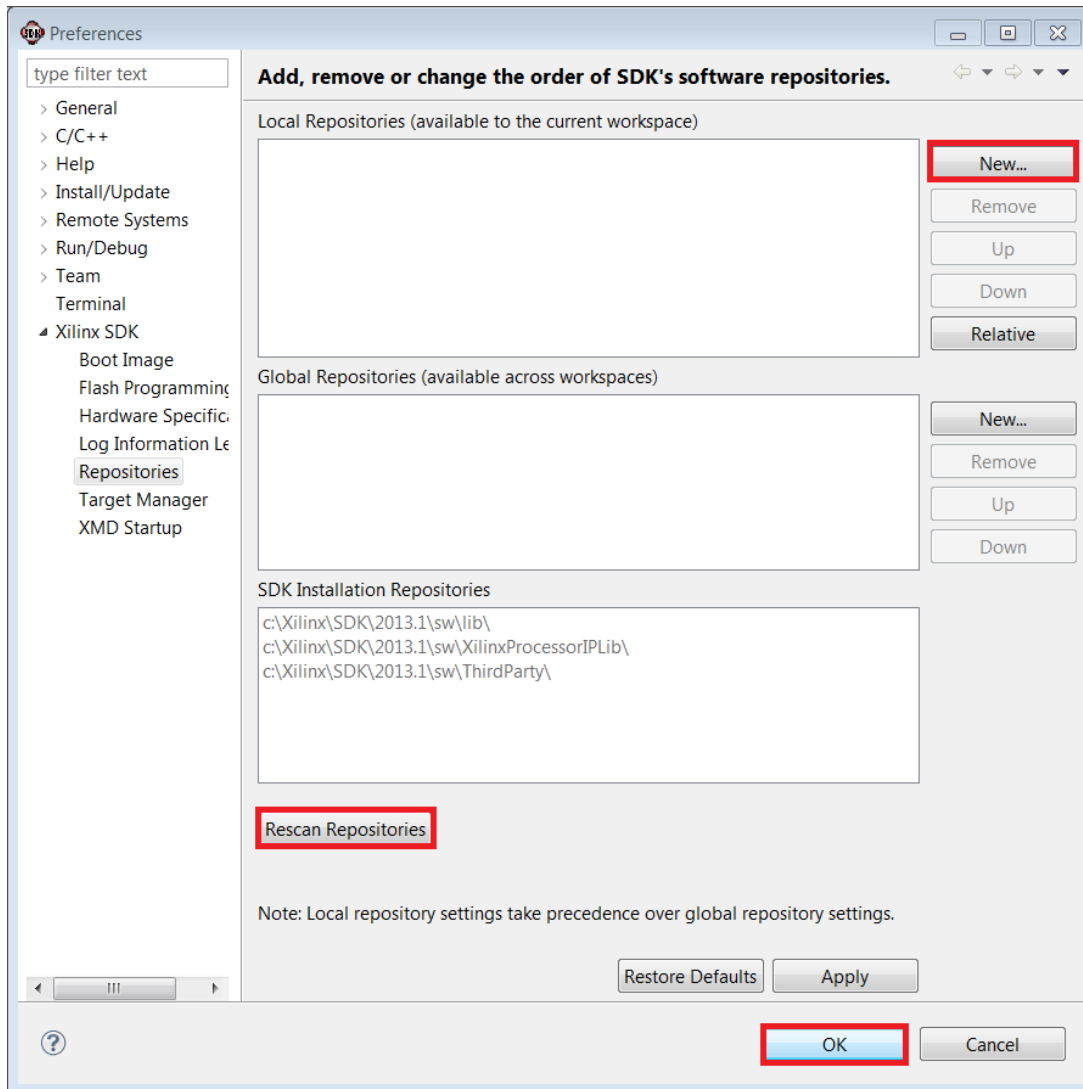

Figure 135: SDK Preferences Page
2. Click **New** next to the local repository box to add a new local repository (Figure 135).